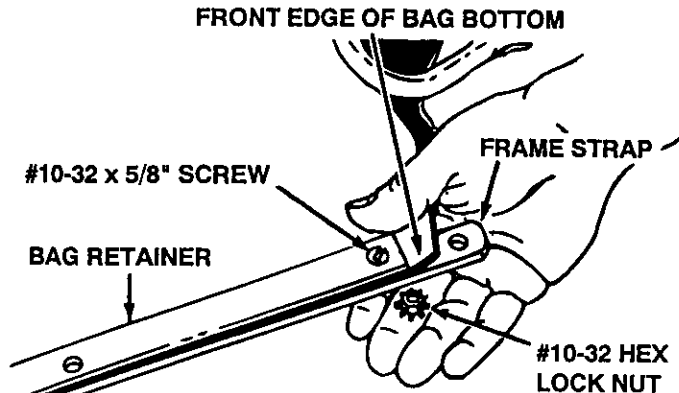

FIGURE 12
- Assemble the bag retainer and the bag frame strap to the front edge of the bag bottom. Place the bag retainer on top and the bag frame strap underneath the bag bottom. Fasten together using six #10 x 5/8" slotted screws and #10-32 hex lock nuts. **Tighten.** See figure 12.